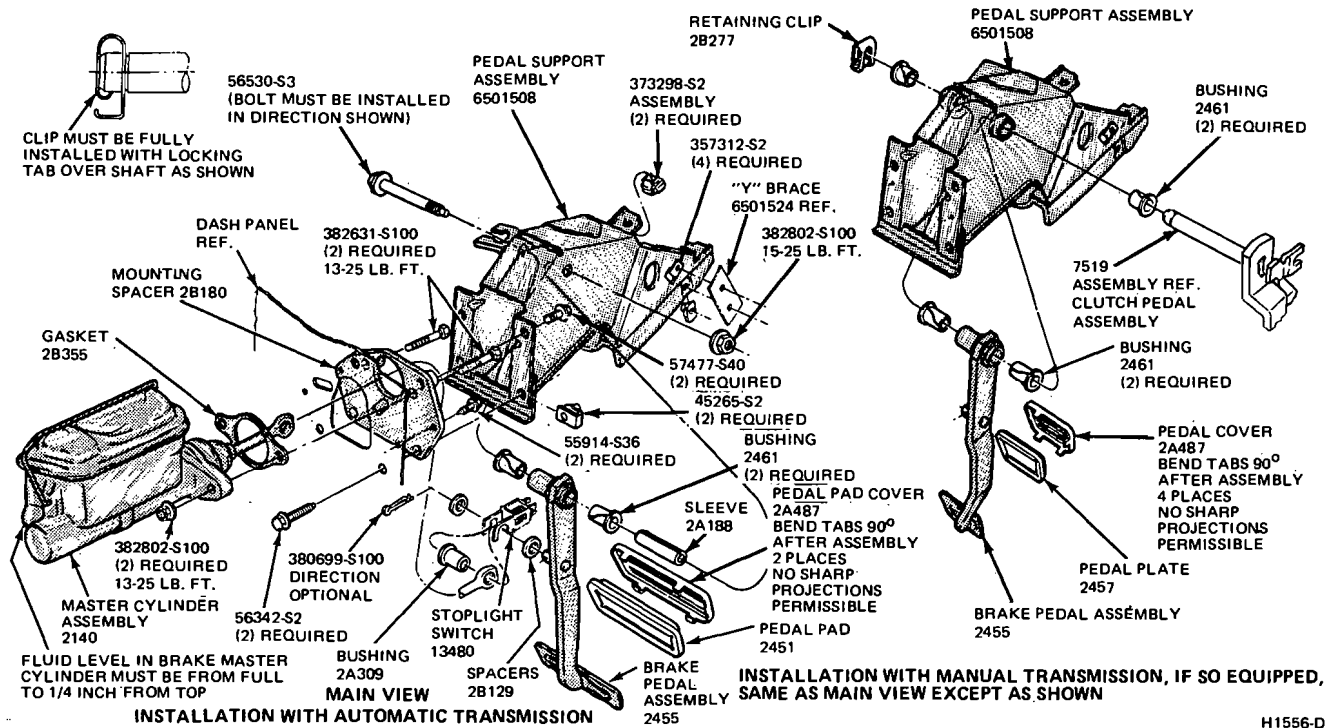

FIG. 10 Master Cylinder and Brake Pedal Installation—Non-Power Brake—Torino and Montego
Refer to Figs. 10, 11, 12, 13.
- Slide the master cylinder or booster push rod and the nylon washers and bushing off from the brake pedal pin (Figs. 10, 13 and 15).
- support bracket, then install the clutch pedal and shaft assembly through the support bracket and brake pedal assembly. Install the retaining clip (Figs. 10, 13 and 15).
- Remove the self-locking pin and slide the stop light switch off the brake pedal pin just far enough for the switch outer hole to clear the pin. Then lower the switch away from the pin. Slide the master cylinder or booster push rod and the nylon washers and bushing off from the brake pedal pin (Figs. 10, 11, 14, 15 and 16).
- Apply a coating of SAE 10 engine oil to the bushings and locate the washer, spacer and bushings in their proper places on the pedal assembly (Figs. 10, 11, 14, 15 and 16).